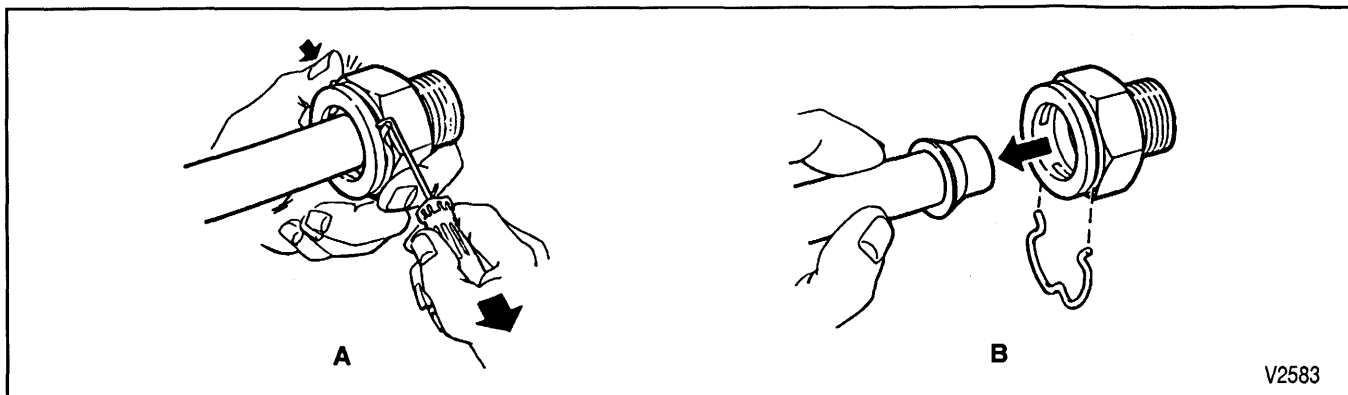

Figure 47—Removing Oil Cooler Line From Connector
- Using your thumb and forefinger, insert the connector clip into one of the three recesses in the connector (C in figure 47). With one end of the clip engaged in the connector slot, use your thumb and rotate the clip around the connector until it snaps into place (D and E in figure 47).